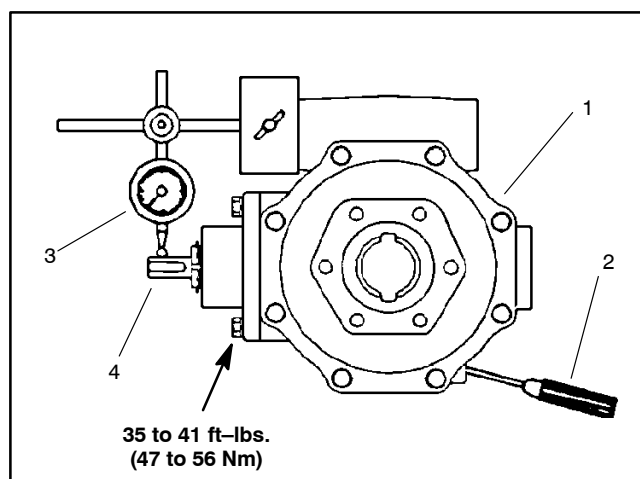

Figure 21
11. Insert a screwdriver through the drain plug hole to hold ring gear and measure the pinion gear to ring gear backlash (Fig. 21).